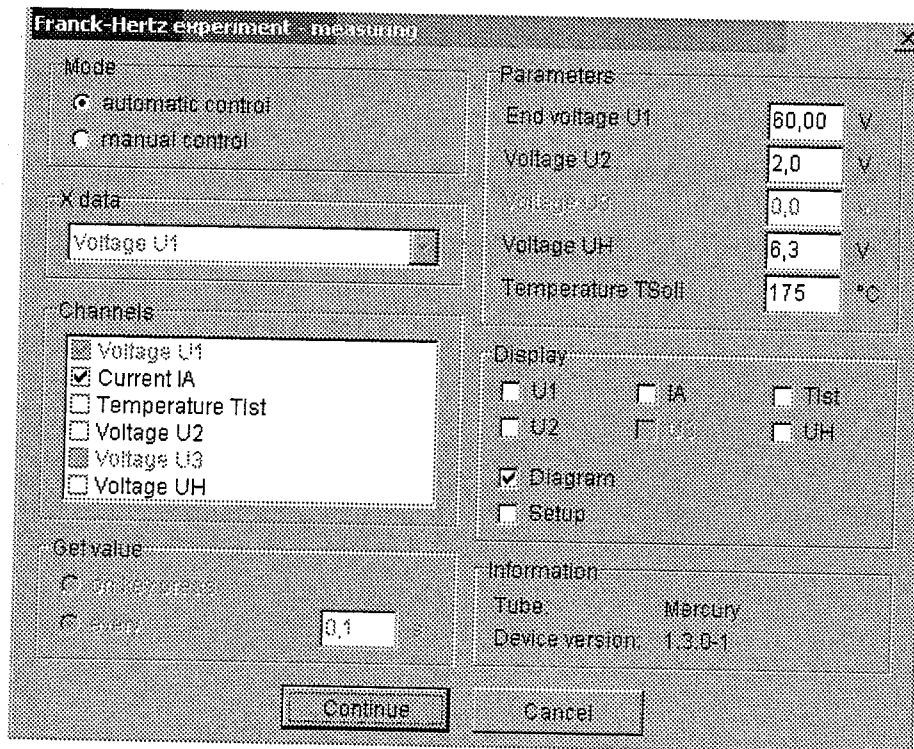

Fig. 8 Measurement parameters of the Franck-Hertz programme for the Hg-tube
B) Start the Measure software and call the Franck-Hertz measurement programme. This automatically recognizes if the Hg tube or the Ne-tube is connected. The parameters required are predefined (see Fig. 8). The values given in Fig. 8 are typical values with which it should be possible to successfully record a measurement curve. **If the collection current is too high then the measurement will be interrupted automatically by control unit after 7 sec. to protect the tube from being damaged. To avoid the discharges adjust the parameters U₂, U₃ and U_H as follows: decrease the heating voltage U_H and decrease the voltage U₃.**